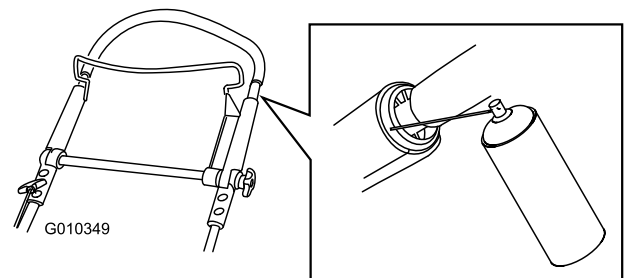

Figure 21
1. Spray the outer plastic end of the inner handle (Figure 21).